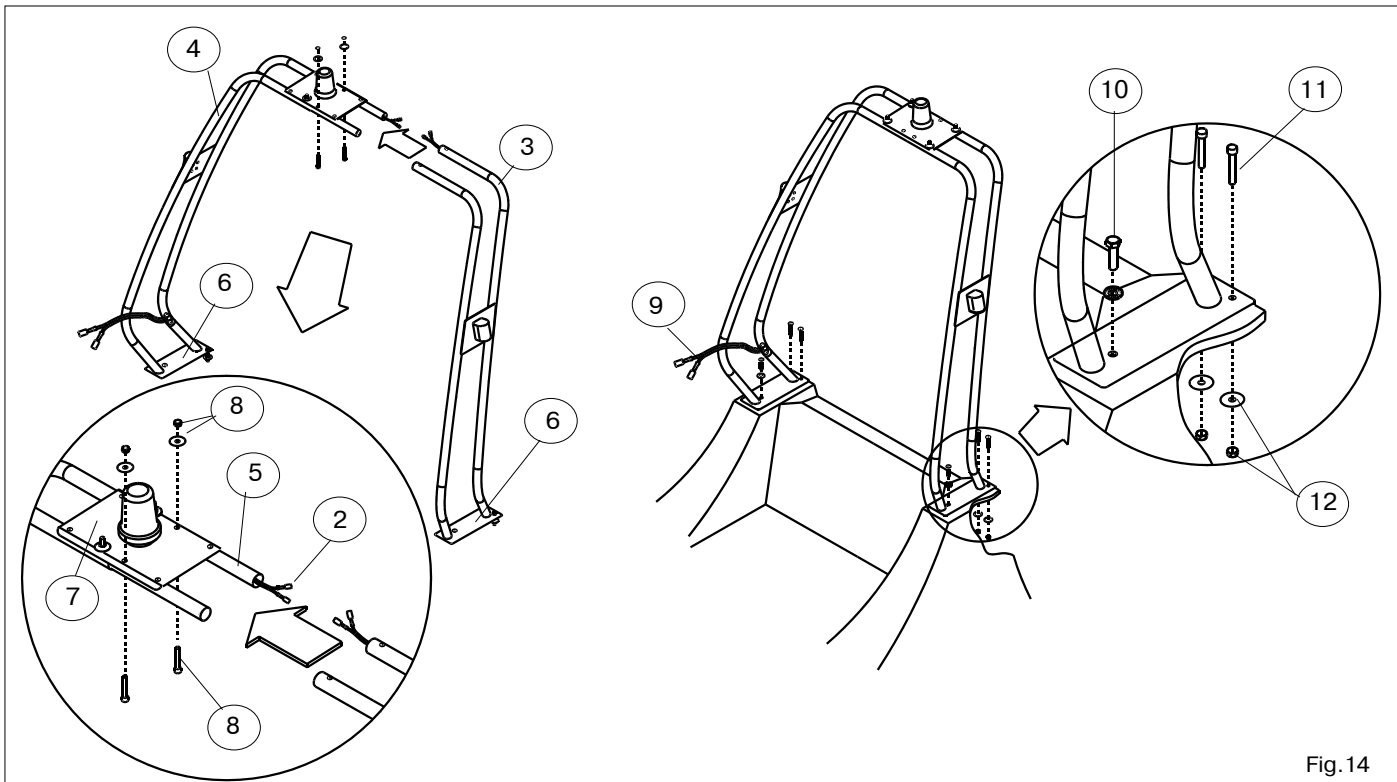

Fig.14
2. In order to assemble the stainless steel arc perform the next operations (Fig. 14):
- join electrical cable clamps (Pos.2), (Fig. 14);
- couple left supports of the arc (Pos.3), (Fig. 14) with right supports (Pos.4), (Fig. 14);
- align holes in the arc supports with the holes in tube imbeddings (Pos.5), (Fig. 14). It's necessary take into account that the distance between left and right brackets of the arc (Pos.6), (Fig. 14) must be 1130mm.
- fix the arc supports together through the upper plate (Pos.7), (Fig. 14) with the help of bolts M6x40, washers 6x12, self-locking nuts M6 (Pos.8), (Fig. 14).
3. Mount the arc brackets onto the stern plates. Previously pull the electrical cable clamps, outgoing from the right support (Pos.9), (Fig. 14), through the hole, 12 mm in diameter, in the right stern plate beading. Fix the arc brackets with the help of two bolts M8x25, two arrester washers 8 (Pos.10), (Fig. 14), four bolts M6x40, four washers 6x24, four self-locking nuts M6 (Pos.11), (Fig. 14).
4. Set arch on transom platforms. Fix arch with the help of bolts M8 with washers (pos.10 Fig.14) and bolts M6x40 (pos.11 Fig.14) with washers 6x24 and nuts M6 (pos.12 Fig.14).